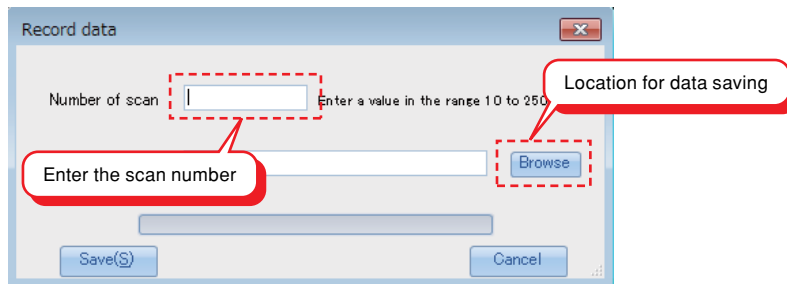

Figure 7-59. Data logging
- A window is displayed requesting for the scan number and saving location as shown in figure 7-59.